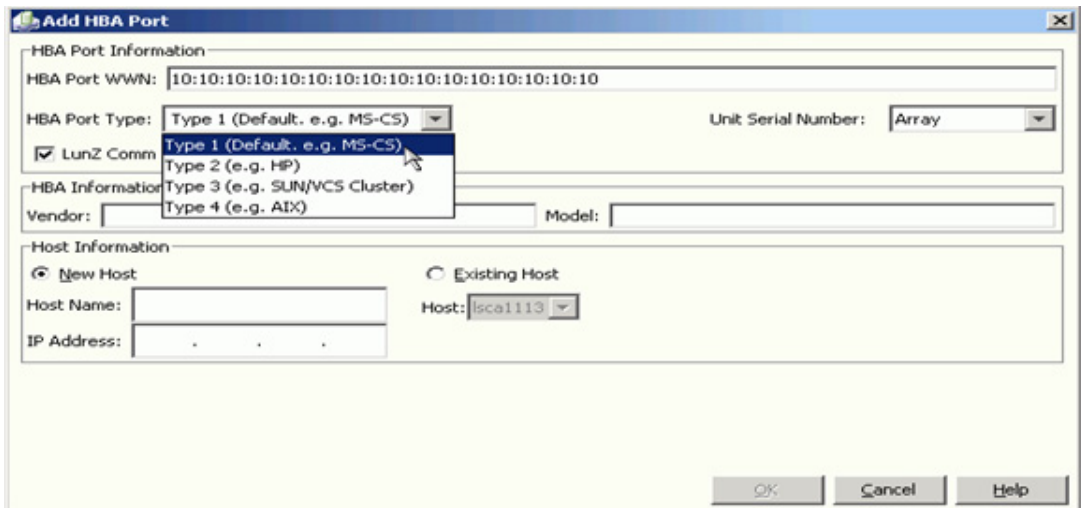

Figure 15 Add HBA Port dialog box
4. In the **HBA Port Type** field, select one of the port types listed in the next table in the **Add HBAPort** dialog box, as shown in Figure 15.